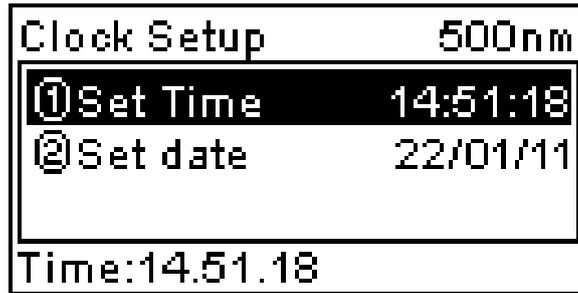

Fig 46
- ① If you select “Set time”, the screen change to Fig 46